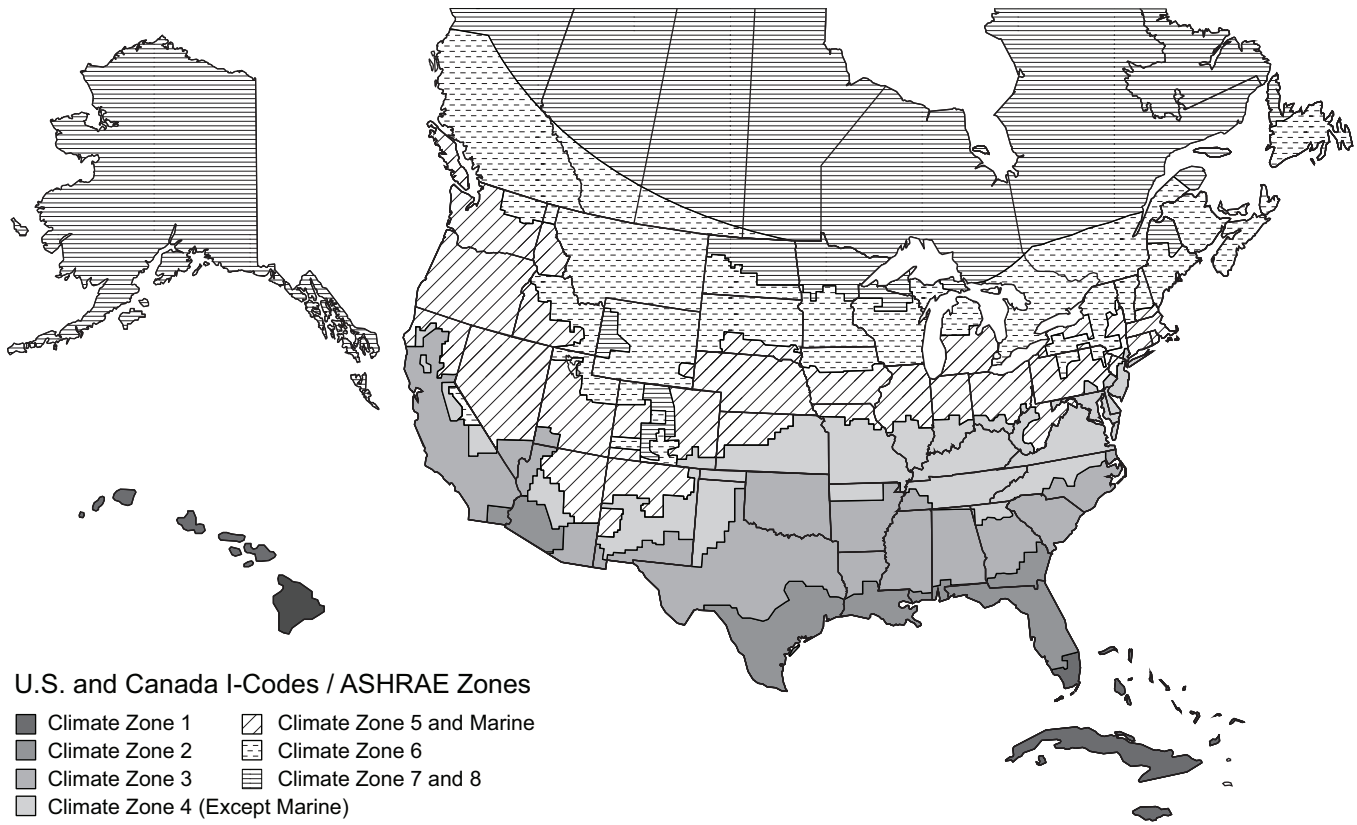

Fig. 78 — U.S. and Canada Climate Zones
- a. Refer to Fig. 78 for map of U.S. and Canada climate zones.